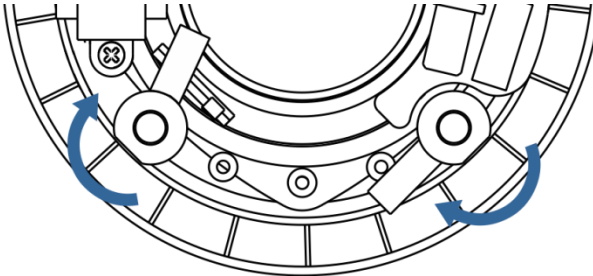

Figure 3: Position Mounting Tab
1. Position the mounting tabs (see Figure 3) inward.